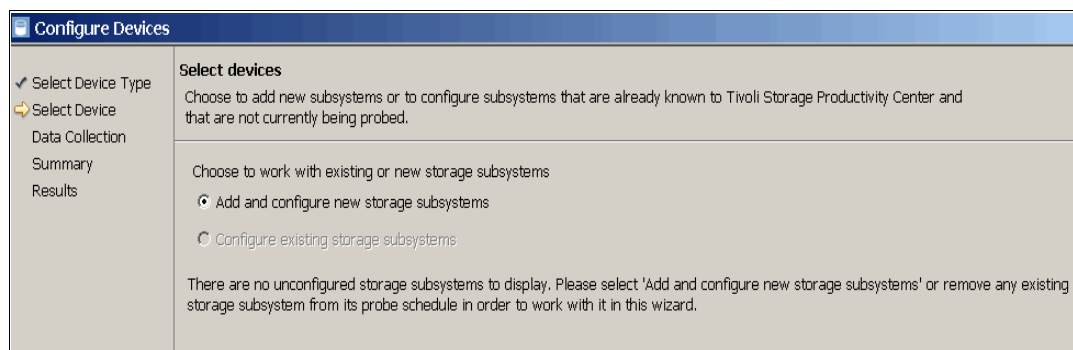

Figure 12-11 Select device type
- From the Select devices window, click **Add and configure new storage subsystems** and click **Next** to continue, as shown in Figure 12-11.